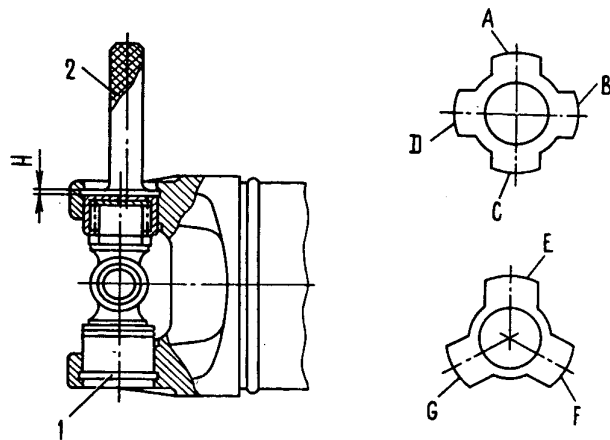

Fig. 3-55. Assembling Universal Joint:
- remove old thick grease and coat the inner surface of the bearing housing with grease No. 158 or ФМОЛ-2У (0.8 - 1.2 g per bearing). Do not coat with grease the cross trunnions to prevent formation of air pocket during the assembly. Insert the cross into the holes in the yokes. Press-fit the bearing into one hole in the yoke and fit 1.56 mm thick lockring 1 (Fig. 3-55) into the groove in the yoke. Press-fit the bearing into the other hole in the yoke till the opposite bearing thrusts against the end of the lockring. The effort of press-fitting should not exceed 15,000 N (1,500 kgf).